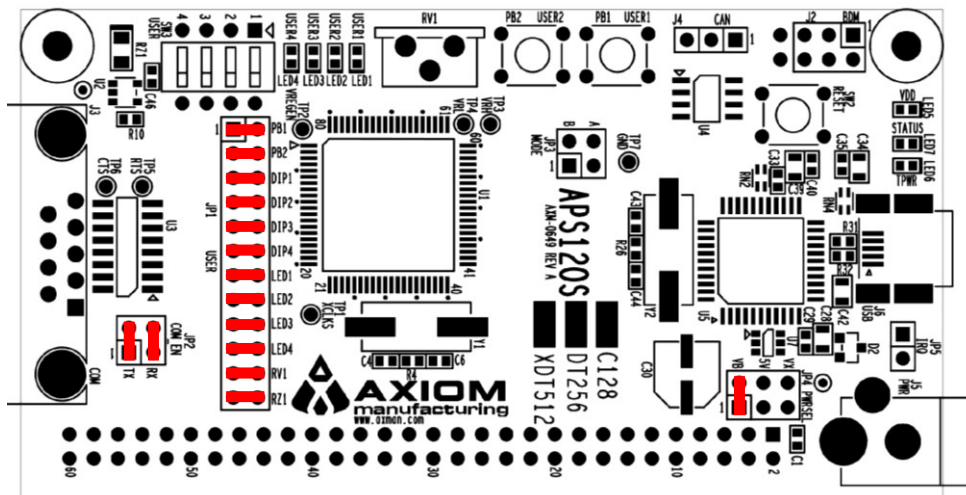

Figure 1: APS120S Default Option Settings
1. Verify the option jumpers are set in default positions. Refer to Figure 1 above.
- Ensure the option jumpers are set to default positions. Refer to Figure 1 above. Specifically, ensure the PWR_SEL option jumper is set correctly.
- If keystrokes do not echo in the terminal window, ensure the terminal program is correctly configured, and the serial cable is attached to the COM port. Additionally ensure the COM_SEL jumpers are set properly, refer to Figure 1 above.